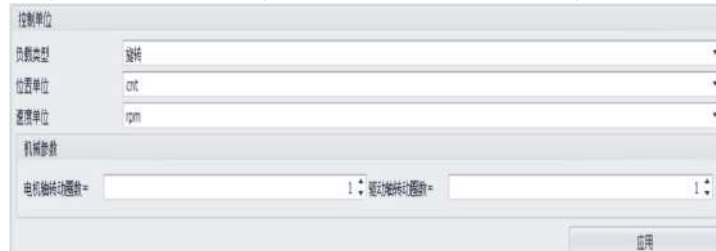

Figure 4-9 User units
2. Set parameter unit for motion control parameters, including position unit and velocity unit, and configure mechanical gear ratio, as shown in Figure 4-9: